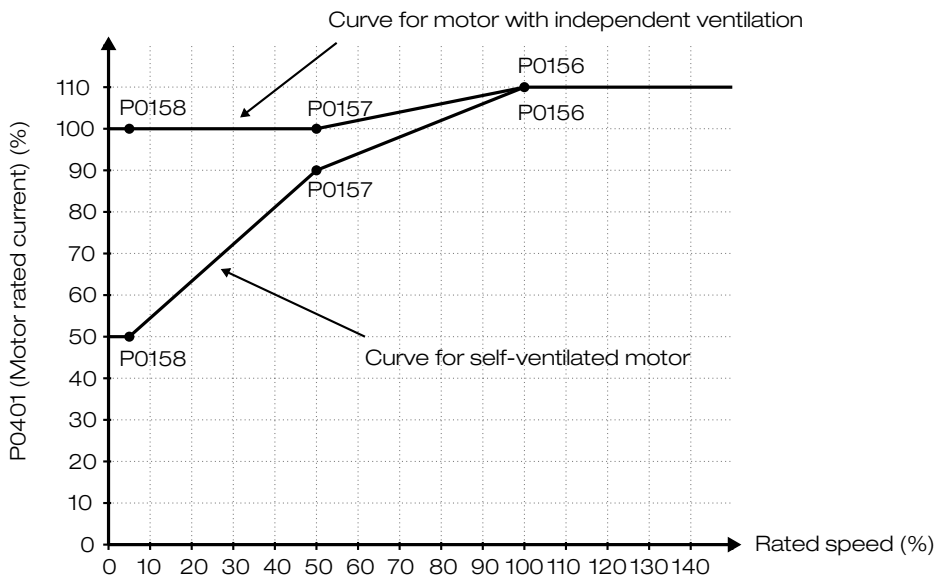

Figure 5.20: Overload protection levels
- Parameters P0156, P0157 and P0158 are the three points used to form the motor overload curve, as shown in Figure 5.20 on page 5-30 for the factory setting.